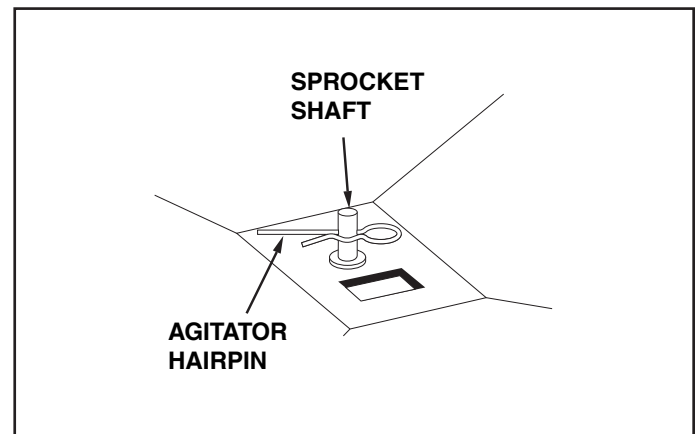

FIGURE 15
2. If the agitator hairpin becomes damaged or worn it can be replaced. See figure 15.